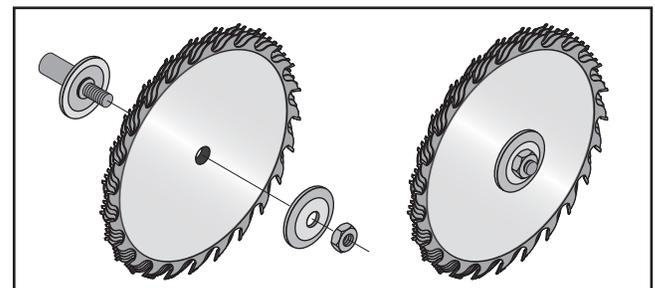

Figure 62. Installing a dado blade.
6. Install the dado blade on the arbor shaft, as shown in **Figure 62**.